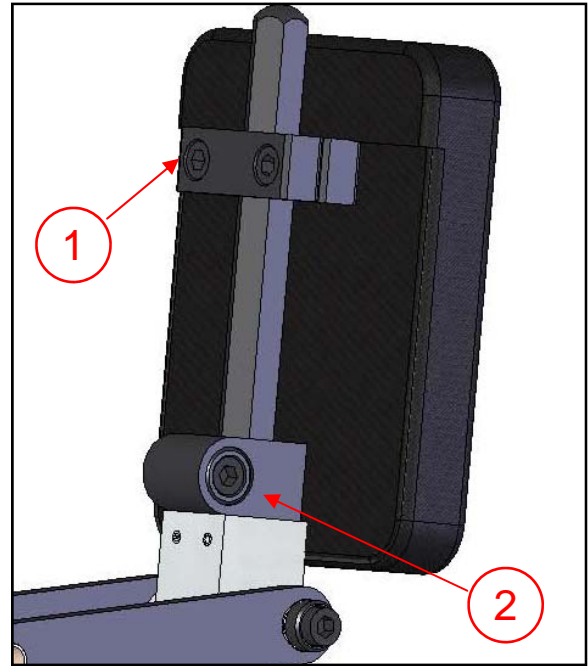

Figure 24
Refer to Figure 24.
1. To mount the shoulder pads, first remove the headrest pad. Do this by loosening the two Allen screws securing it to the vertical hex bar coming out of the top of the column. (1)
2. Then, slip the shoulder pads onto the top of the bar as shown in Figure 24 A.